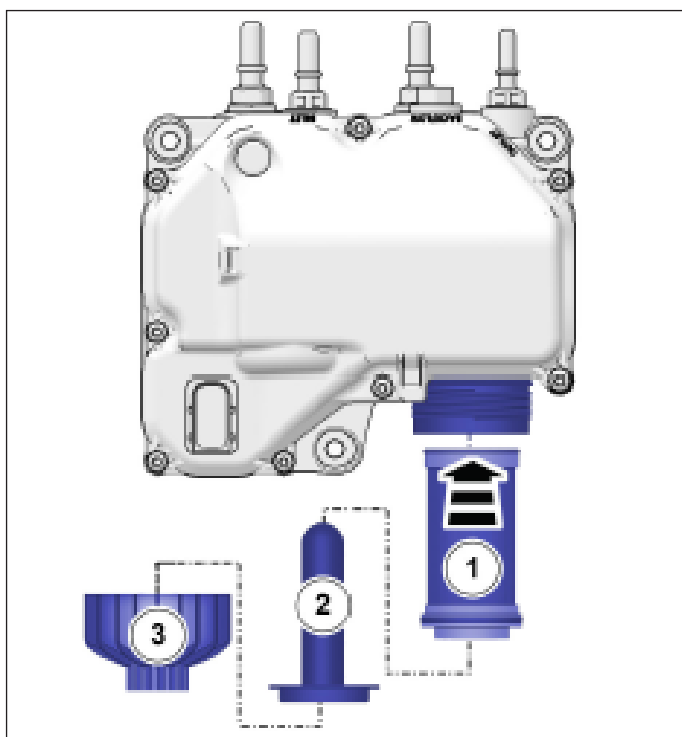

Figure 6.12 - Replacing DEF Pump Filter
8. Install the new filter see item 1 Figure 6.12. Install the rubber gasket see item 2 Figure 6.12. Screw on the filter cover see Item 3 Figure 6.12.